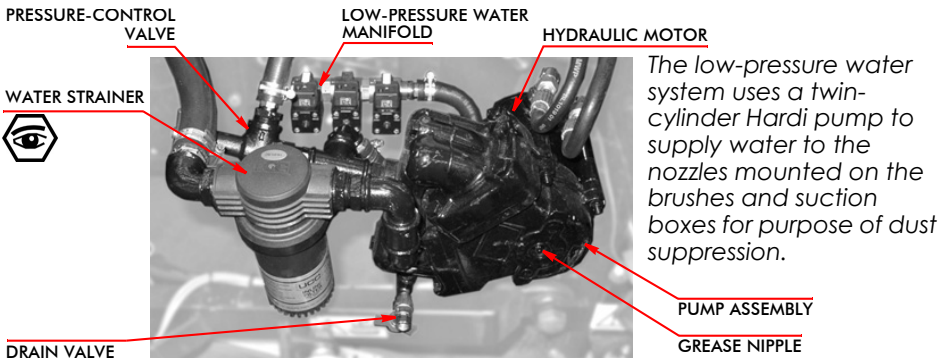

Fig. 8 Typical Low-pressure Water Pump Arrangement
2. Drain the water tank and open the drain valve (Fig. 8). Switch on all sprays and run the water pump until the system runs dry.